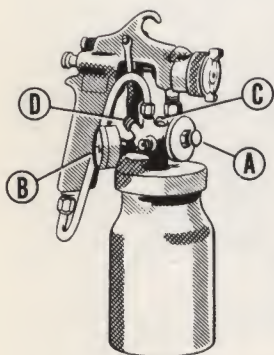

Fig. 47
The regulator type cup has a built-in regulator which controls the fluid pressure independently of the atomization air pressure (Fig. 47). A regulator cup is equipped with the following accessories: An air regulator to control pressure on the material (A), a gauge to indicate this pressure (B), a valve to release pressure from the cup and a safety valve (C), and in some cases an air adjusting valve to control atomization air to the gun (D).